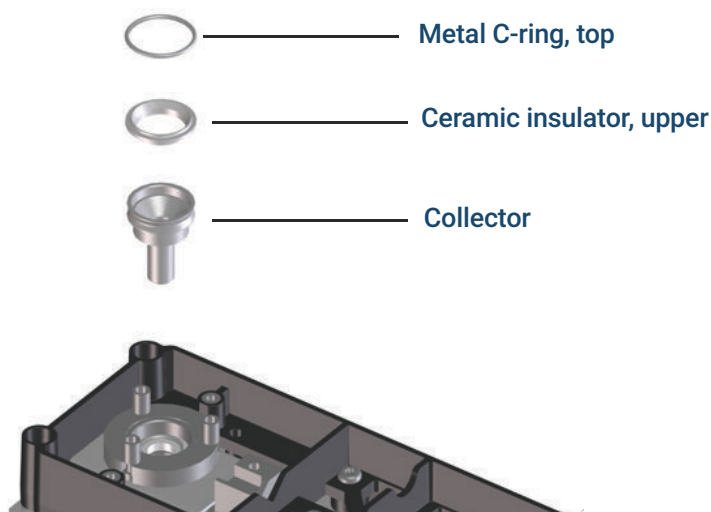

Figure 20. NPD collector, upper insulator, and metal C-ring
24. Install the upper ceramic insulator and top metal C-ring above the collector. See Figure 20.